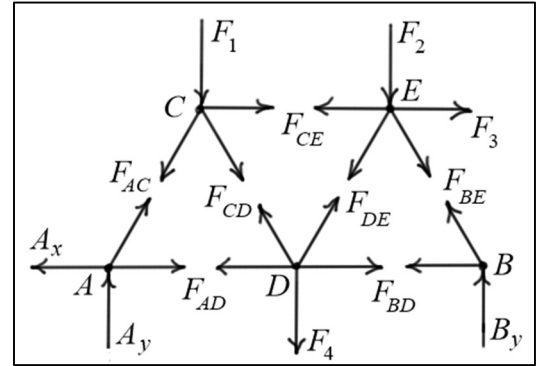

Fig. 3 Free Body Diagrams of all Pins
- **Tensile** forces **act away** from the pins. **Compressive** forces **act towards** the pins. All member forces in Fig. 3 are drawn as tensile forces.